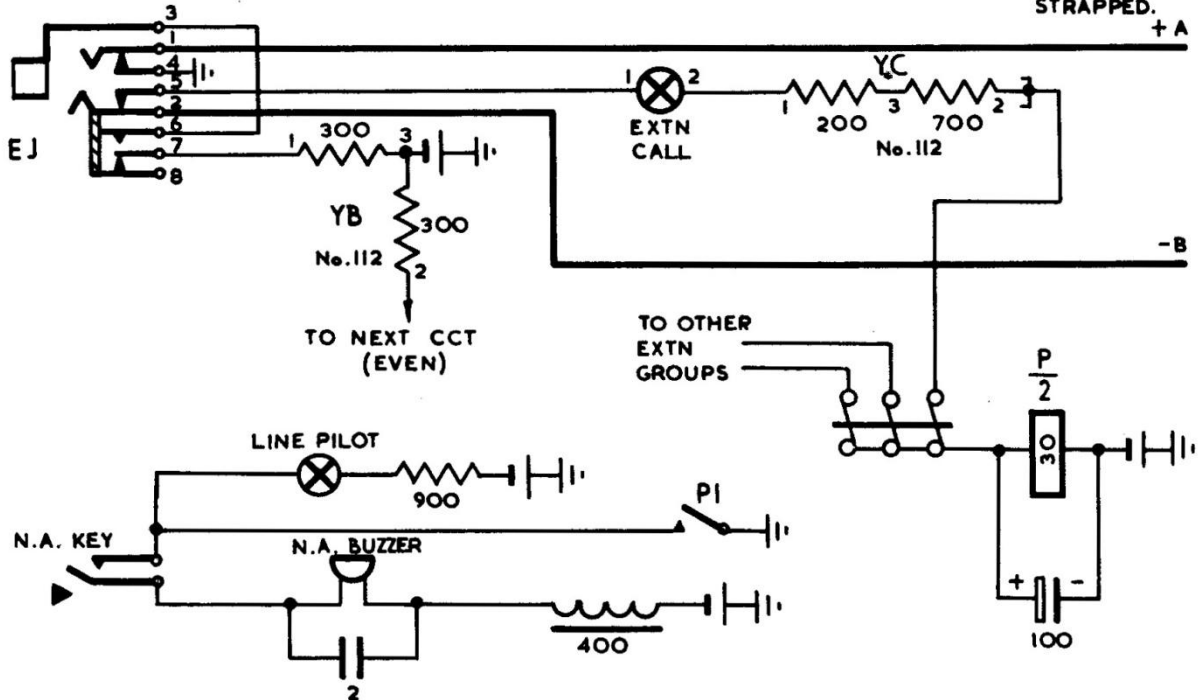

FIG. 1. EXTENSION CALL CIRCUIT.
5.1 Extension Line Circuit. Each extension line is connected via an extension jack to a 6 volt Call Lamp and limiting resistors. A number of extension call lamp circuits are connected via a fuse to a Pilot Relay (Fig. 1).